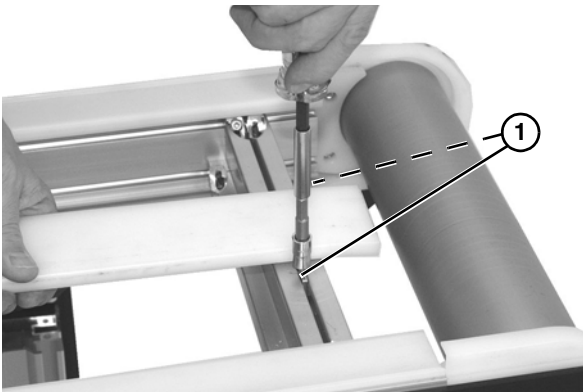

Figure 35
3. Remove two screws (**Figure 35, item 1**) from each clamp on center frame channel.